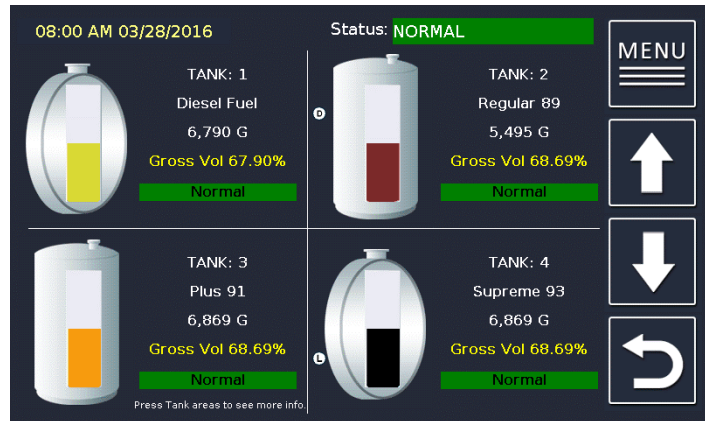

Figure 2.4
**VLD Test In Progress:** A VLD test in progress will display a small  icon next to the corresponding tank. (Figure 2.4)